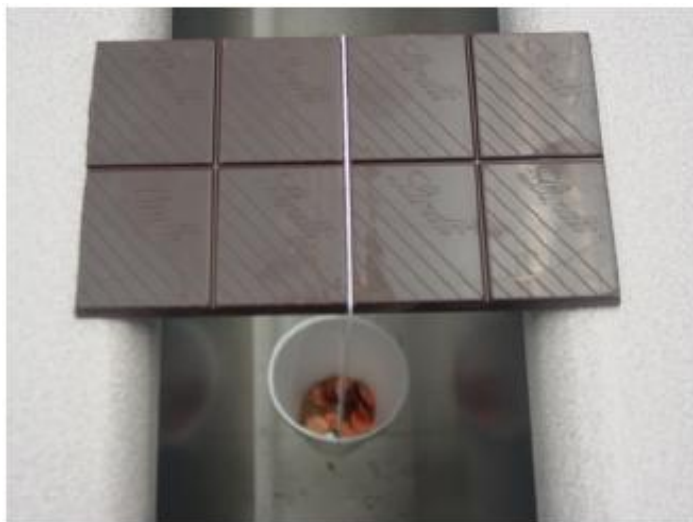

Figure 2. Chocolate bar subjected to a 3-point bending test
5. Place the twine with the cup attached across the middle of the chocolate bar so that the cup hangs freely below the chocolate bar as shown in Figure 2.
Note: If the chocolate bar is ‘scored’ (indents in the chocolate which make it easier to break into pieces), and the string is centered in the score as shown in Figure 2, the bar will be less strong than a bar of equal size that does not have score lines (ex. a Crunch[®] bar). While it would be best to be consistent (either have all the bars with score lines or no score lines at all), this can be difficult to find at times in a local grocery store. It is ok to run this lab with a combination of chocolate bars with/without scores, but the point should be made to the students that this may cause some differences in the bar’s strength that has nothing to do with changes in the microstructure, but rather a difference in geometry. This is part of the reason why this lab utilizes the calculation of flexural strength rather than just comparing the chocolate bars based on the number of pennies in the cup at failure. The flexural strength calculation attempts to account for the geometry of the bar during the loading process. If the bar contains score lines, you can have students measure the thickness of the bar at a score line and away from the score line. Use each set of dimensions to calculate the flexural strength of the bar and compare the two values. The actual flexural strength of the bar is most likely an average of these values.